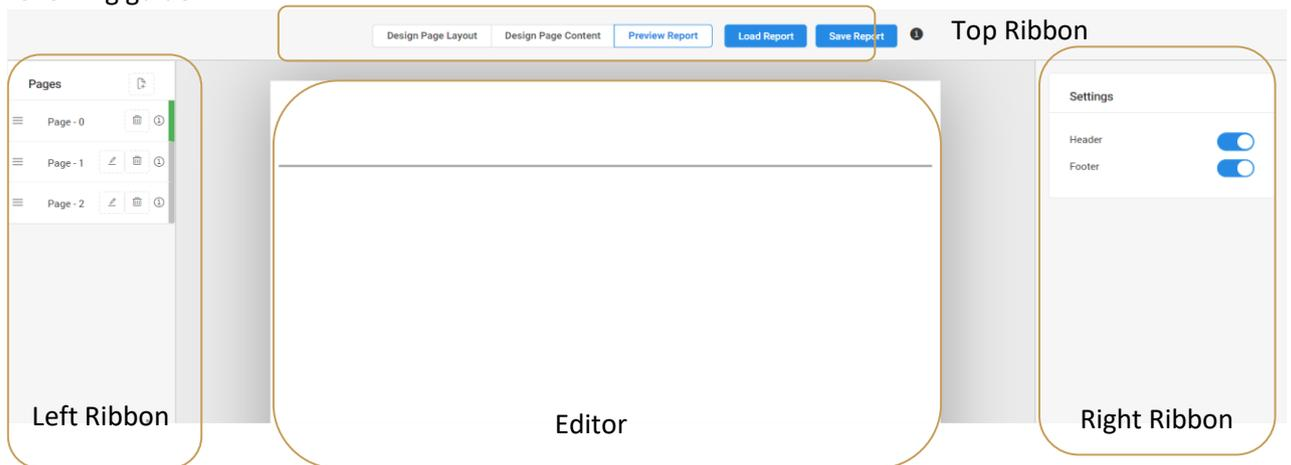

Figure 9 REPORT DESIGNER
- a. Here you can set the trigger mode, frequency and intervals between automatic report generation. **(Figure 9)**
Figure 9 shows the layout of the report designer and how each section is referred to in the following guide.
When in **Design Page Layout** mode, it is possible to resize and edit the header and footer of the report. Initially, this is applied to all pages in the report (and any subsequently added pages). This can be overridden per page by using the **Settings** options on the right ribbon (Figure 9).